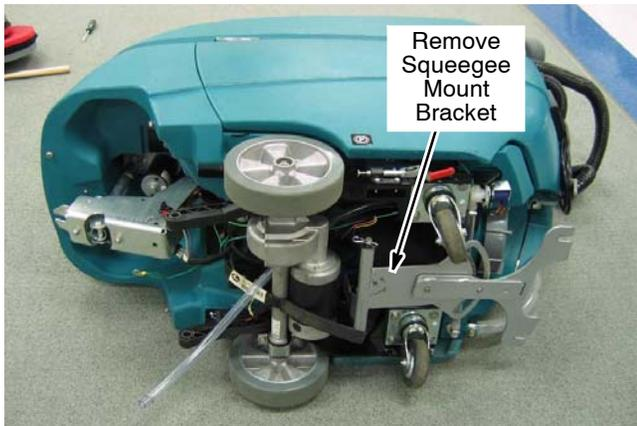

Fig. 38
1. On a level non-marring surface, with assistance, carefully lay the machine on its right side. Then remove the squeegee mount bracket from machine (Figure 38).